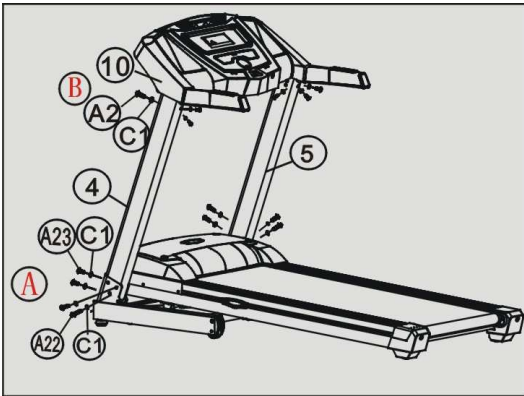

Figure 2
2. Tighten the Half round bolt M10*50 (A22) and Flat washer Φ 8 (C1) which already connect the Left & right support tube (4,5) with Support frame (13); secure them with two Half round bolts M8*20 (A23), two Flat washers Φ 8 (C1) in front and one Half round bolt M8*50 (A22), Flat washer Φ 8 (C1) on the sides. (See figure 2-B)
3. Tighten the computer (10) with the Left & right support tube (4, 5) with six sets of two Half round bolts M8*16 (A2), Flat washers $\Phi 8$ (C1). (See figure 2-B).